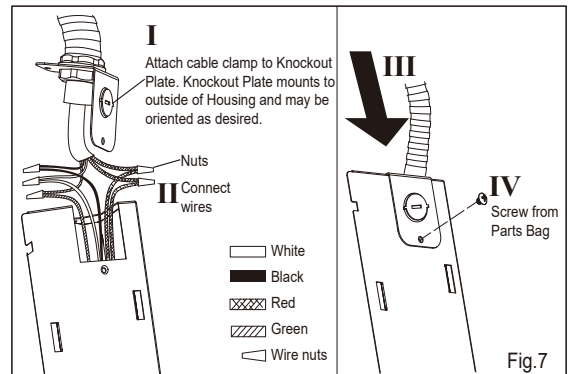

Fig.7
7. Remove the knock-out plate and secure conduit or wire protector nut to knock-out hole. (Fig.7. I)
Using UL approved wire nuts, connect house power wires to the ventilating fan wires (Fig.7. II), then attach it to fan body.